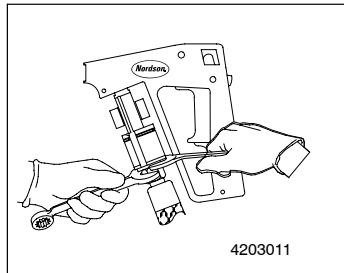

Figure 4 Attach the Hose to the Handgun (electrical connections not shown for clarity)
3. See Figure 4. Attach the hose fitting to the swivel connector, and tighten using two wrenches. Place a 20-mm ( $3/4$ -in.) wrench on the wing of the swivel connector, and tighten the hose fitting using the 18-mm ( $11/16$ -in.) wrench.